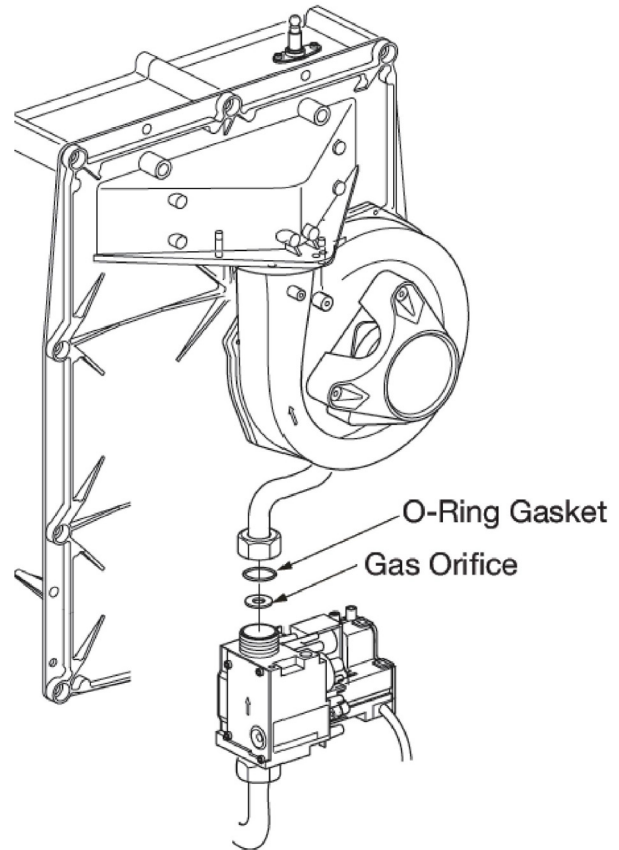

Fig. 2: Gas Orifice location
5. Loosen the gas pipe brass nut at the gas valve. Set aside the orifice and o-ring for reinstallation. See Fig. 2
- With the gas orifice in place, reconnect the gas pipe brass nut to the gas valve. See Fig. 2.